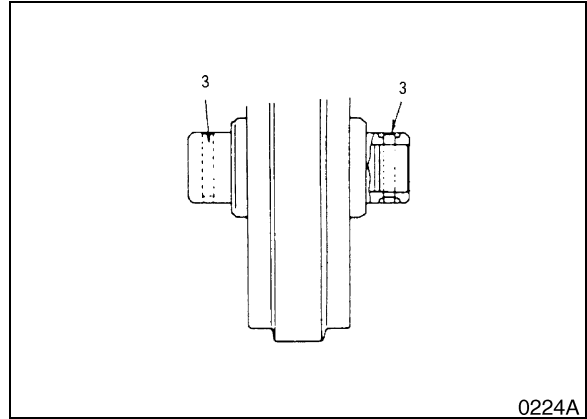

Figure 20
2. Separate the pin (3, Figure 20) from the bearing (1).